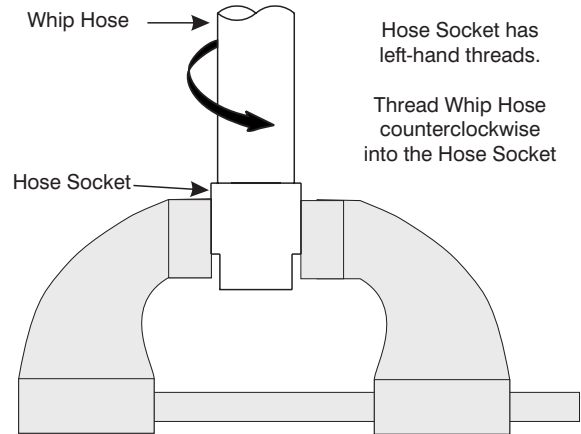

Figure 9-11. Hose Socket and Hose in Vise.
1. With its larger internal bore (hose end) facing up, clamp the Hose Socket (15) in a vise, as shown in Figure 9-11.